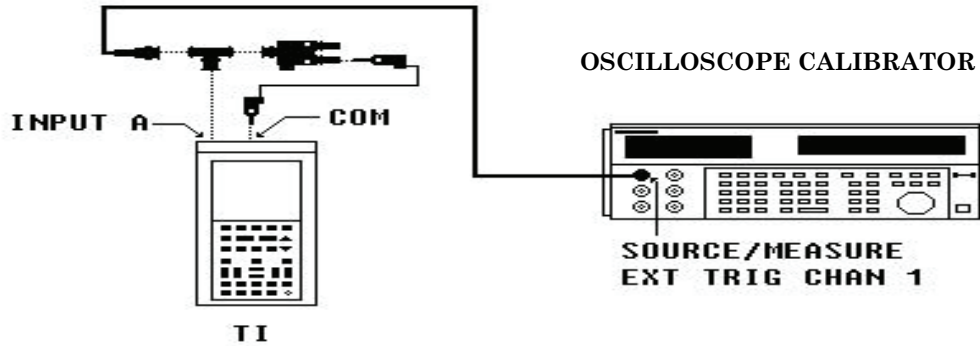

Figure 1. Scope vertical gain input A.
- (2) Connect equipment as shown in figure 1.